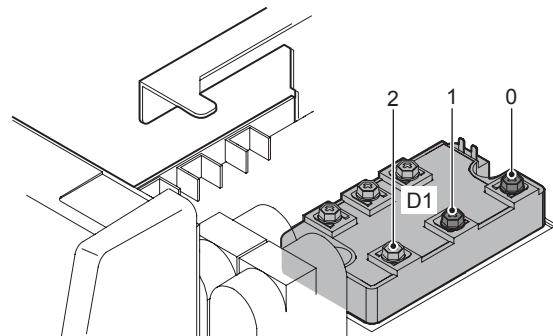

Figure 11-8: The check points 1 (P) and 2 (N)
- 5) Verify the rectified output voltage of the input diode, D1 using a DC voltmeter. (The capability of the voltmeter should be more than 1000VDC.) Using a DC voltmeter, measure between the points 1 (P) [+] and 2 (N) [-] on D1. Points 1 (P) and 2 (N) are on D1. See Figure 11-8. The measured voltage should be approximately 1.4 times larger than input voltage measured in #1 above. Replace diode D1 if the calculated measurement is not within the corresponding range (260 ? 360/580 ? 720 VDC) following the process in section 12.3.28.